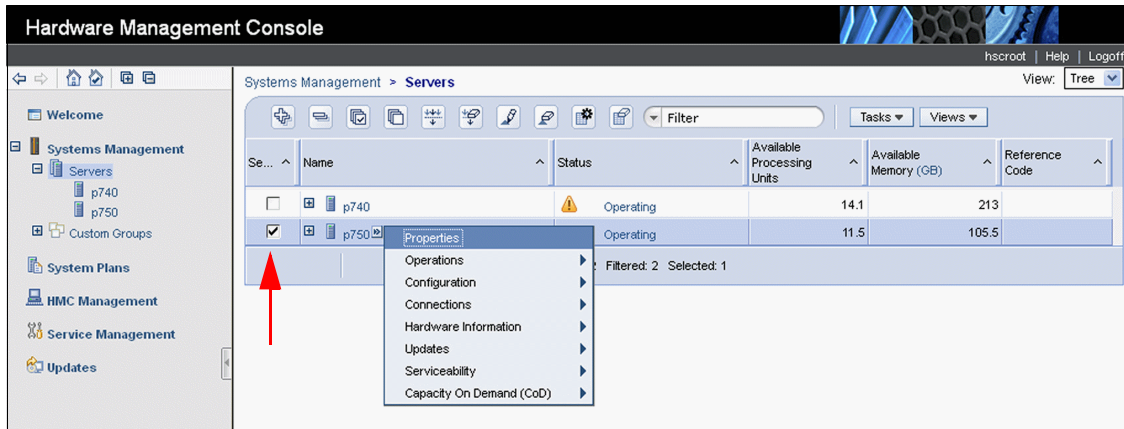

Figure 9-6 Selecting Properties for a managed system in the HMC
2. In the Servers panel of the HMC, check the check box for the desired managed system. Select **Properties**, as shown in Figure 9-6.